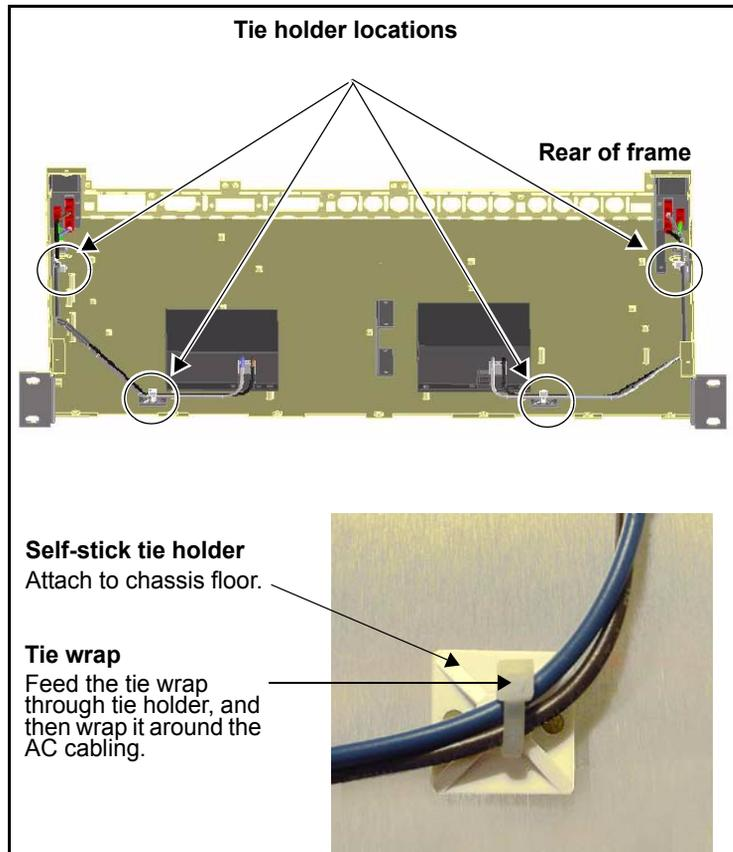

Figure C-32. Attaching Tie Wraps to AC Cabling
5. Secure the AC cabling to the chassis. (See Figure C-32 on page 296.)